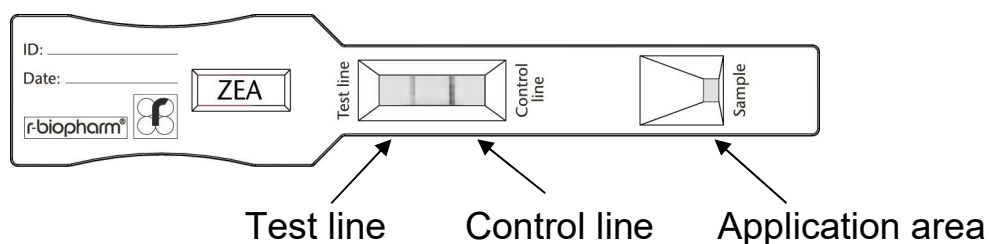

Fig. 1: RIDA®QUICK Zearalenon RQS test strip.
- Apply 100 µL of the sample solution (see chapter 8. Sample preparation) on the application area of the test strip (see Fig. 1).
The left line in the reaction area is the test band (test line, see fig. 1). Its appearance and intensity depends on the zearalenone concentration of the sample. The sample is contaminated with zearalenone, if the control band (control line) is visible and the test band (test line) is also visible.